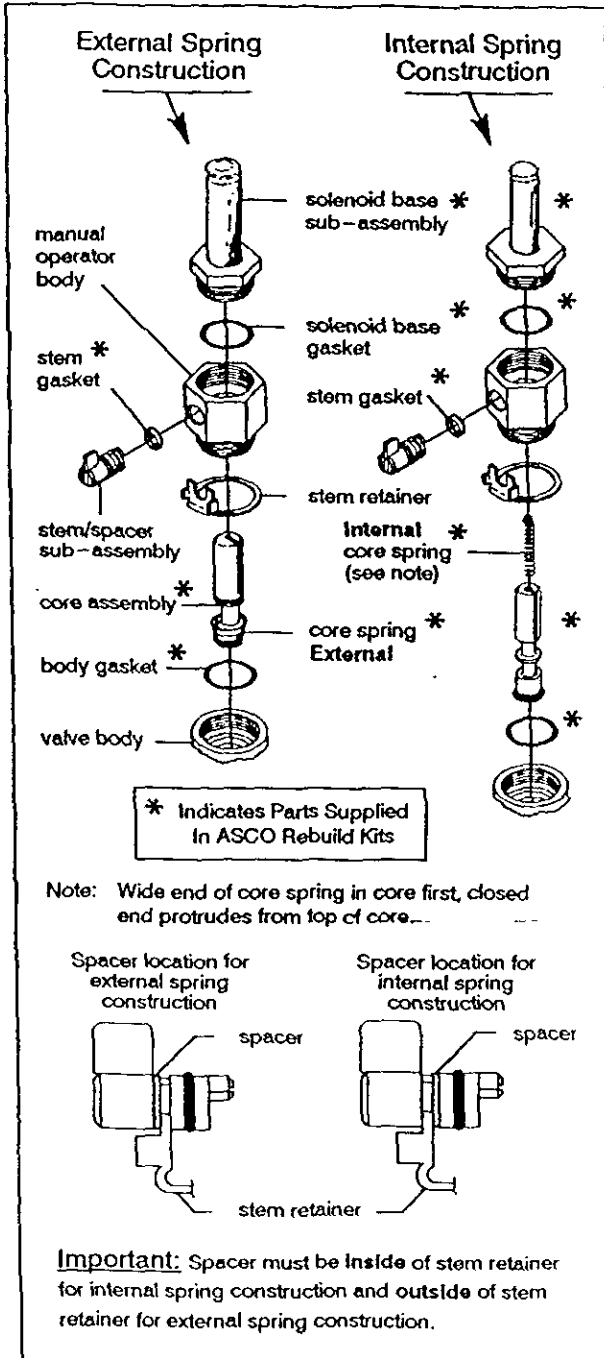

Figure 3. Stem/lever type manual operators
4. For normally open construction (Figure 3) remove end cap, or manual operator, (not shown) end cap gasket, disc holder spring, and disc holder assembly.
3. For normally open construction (Figure 3), install disc holder assembly, disc holder spring, end cap gasket and end cap or manual operator. For valves with 1/8" NPT, torque end cap or manual operator to 90 ± 10 in-lbs [$10,2 \pm 1,1$ Nm]. For all other valves torque end cap or manual operator to 175 ± 25 in-lbs [$19,8 \pm 2,8$ Nm].
Disassembly and Reassembly of Stem /Lever Type Manual Operator (Refer to Figure 3)